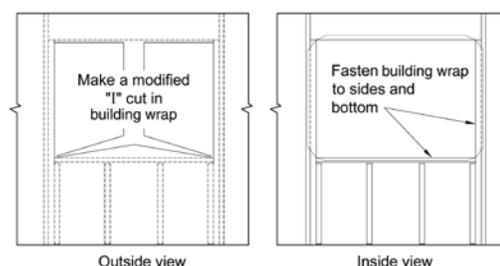

FIGURE 3: EXAMPLE OF MODIFIED “I” CUT AT A WINDOW OPENING
4. For best results, a modified “I” pattern should be made through the building wrap at window openings. Fold excess material inside the rough opening and fasten securely through all layers to a framing member (see Figure 3). If door frames and windows are already in place when installing the building wrap, then trim as close to them as possible and tape the building wrap edges. Use of GreenGuard flashing materials is encouraged.